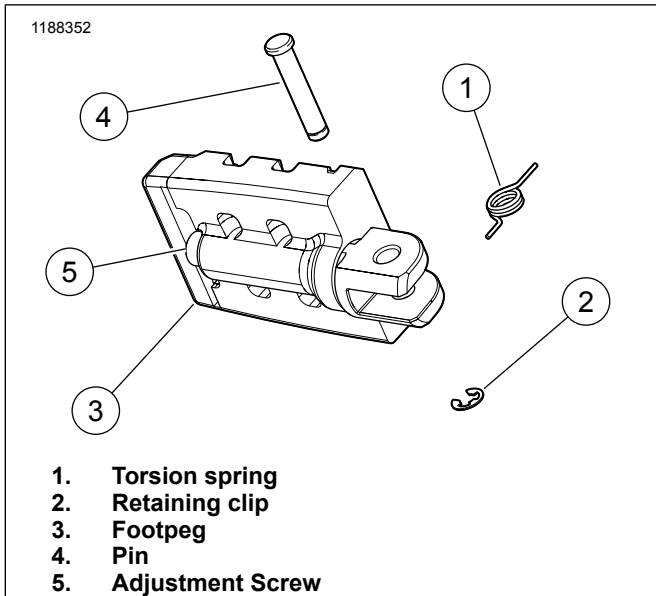

Figure 2. Rider Footpeg Torsion Spring Installation
1. See Figure 2. Your model motorcycle is equipped with a pin (4) and retaining clip (2), remove them and retain for future use. Save all hardware, including torsion spring (1), for installation of the new footpegs (3).
2. See Figure 2. Insert short leg of torsion spring (1) into hole in new footpeg (3). Align long leg of torsion spring (1) to hole in footpeg mount and insert. Rotate footpeg (3) into position in clevis and insert pin (4) through clevis, footpeg (3) and spring (1). Install retaining clip (2). Repeat on other side.
3. See Figure 2. Adjust orientation as follows:
- c. Tighten adjustment screw (5).